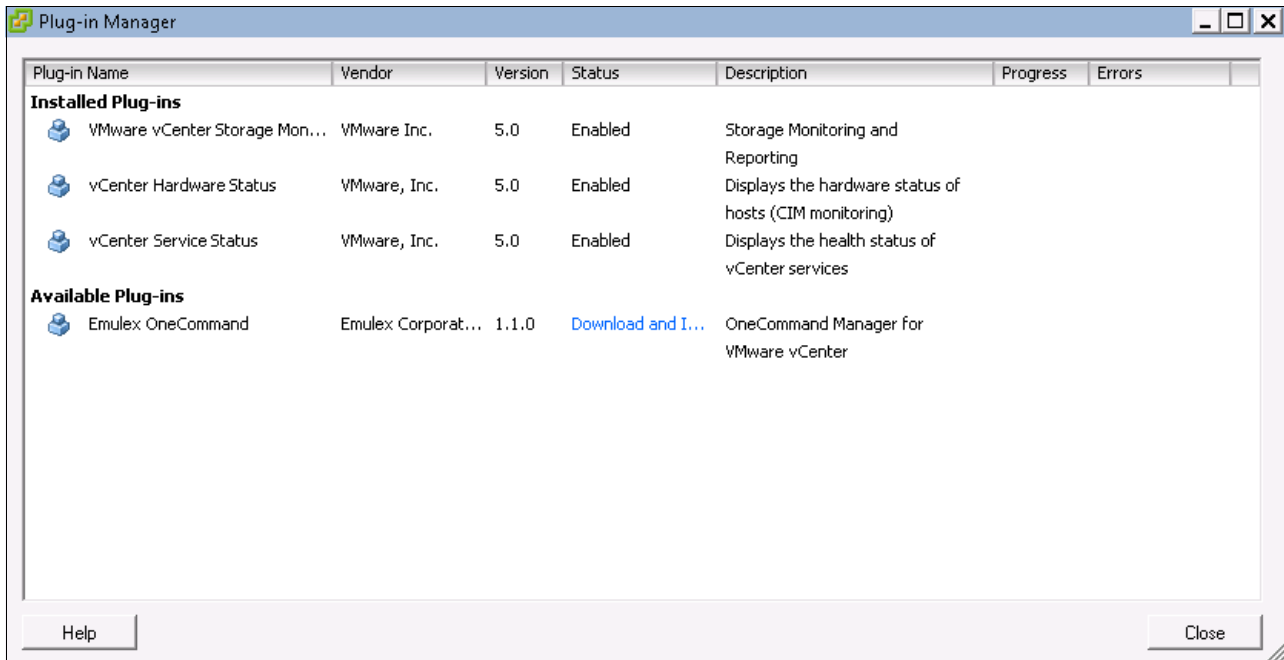

Figure 7-49 Install the Emulex OneCommand plug-in
- In the Plug-in Manager window (Figure 7-49), under Available Plug-ins, where you see the Emulex OneCommand, click **Download and Install**.